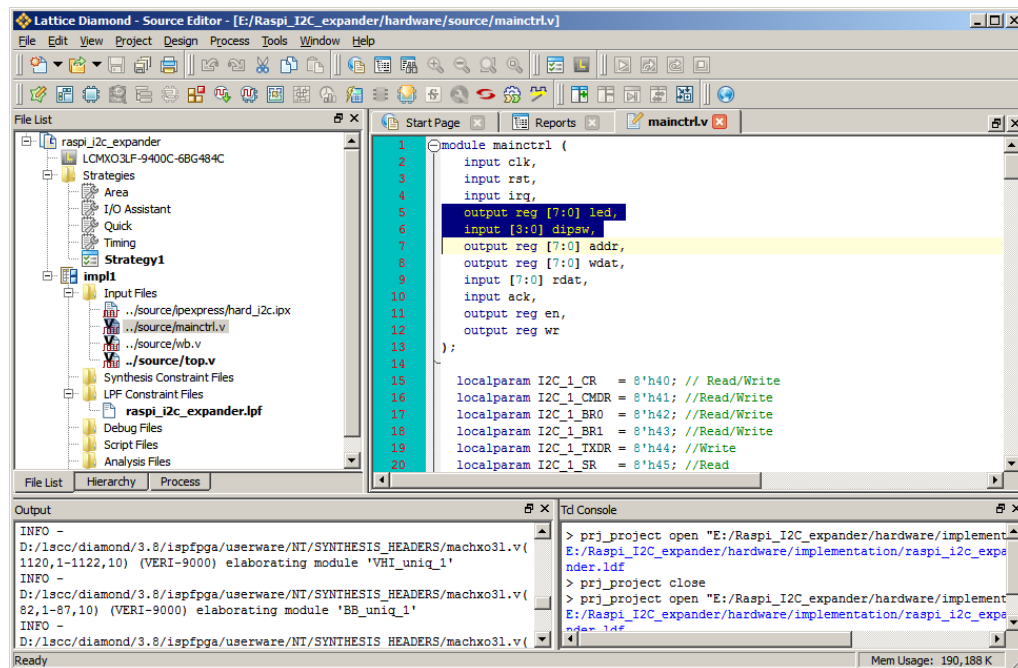

Figure 12.2. Updating RTL
3. Add new input or output ports to be expanded as the existing led[7:0] port and dipsw[3:0] port to the mainctrl.v file (Figure 12.2).